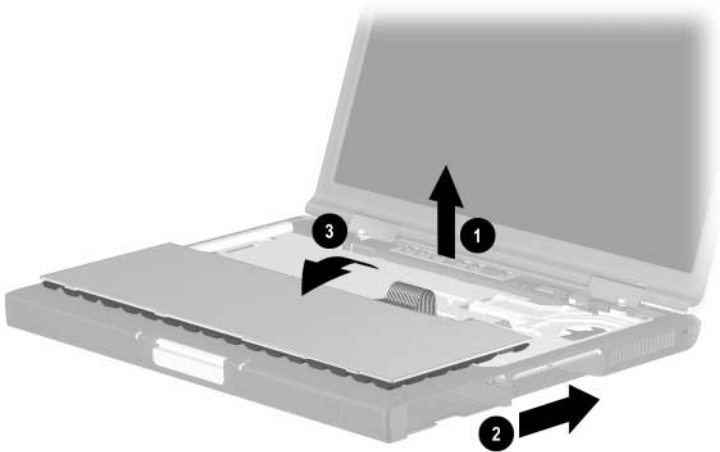

Figure 5-15. Releasing the Keyboard
3. Lift the back edge of the keyboard ❶ (Figure 5-15).
4. Slide the keyboard toward the back of the computer ❷.
5. Lift the back edge of the keyboard and swing it forward ❸ until it rests on the palm rest.